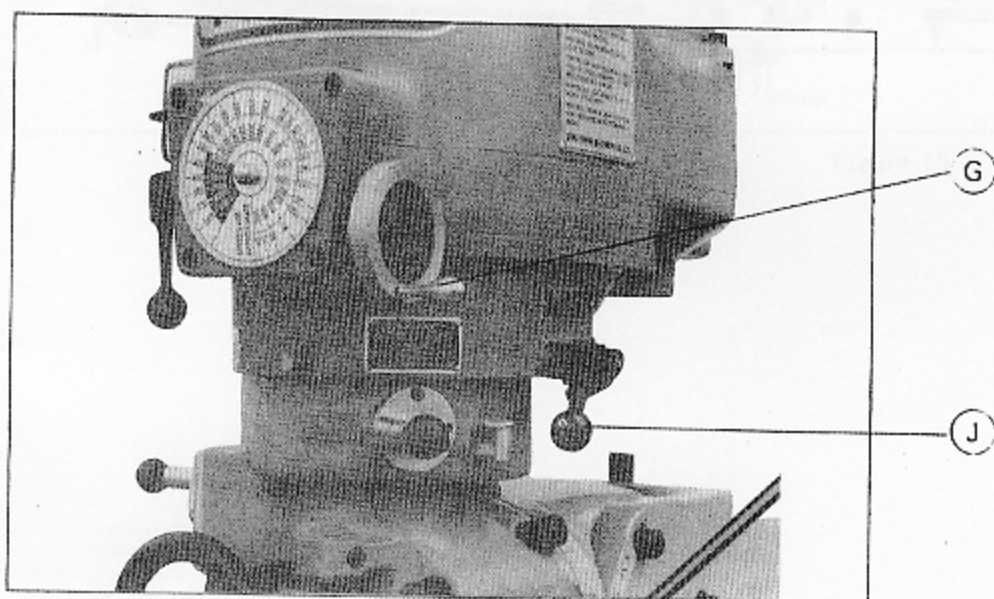

Figure 12
The speed change may be effectuated by the chosen high and low speed lever (Figure 12(J)). When (J) is engaged in the right front, it is for the high speed and the spindle may rotate as high as 500 to 3,000RPM. When (J) is positioned at the right rear, the spindle may have a speed of 60-580RPM. The neutral lever position is in the right down.
Stepless speed variation between high and low speeds may be controlled by means of the turning handwheel (Figure 12(G)) When it is turned clockwise, it is for higher speed, and vice-versa.